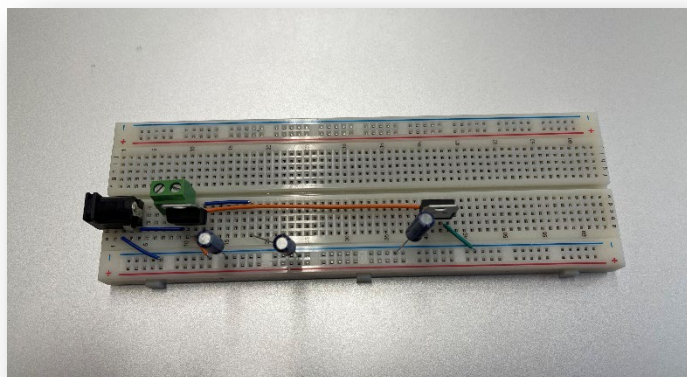

Figure 2
- Using a breadboard produce a functional circuit prototype. Perform sanity checks using the multimeter looking over the different voltages at key points and ensure these align with the desired. Breadboard prototype detailed below in figure 2.